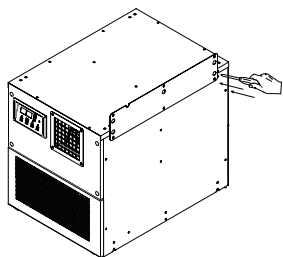

Figure 20 - braket attachment
3. Use screw (enclosed inside of box with bracket) to install as shown in Figure 20.
5. Use screw (enclosed inside of box with bracket) to install as shown in Figure 20.